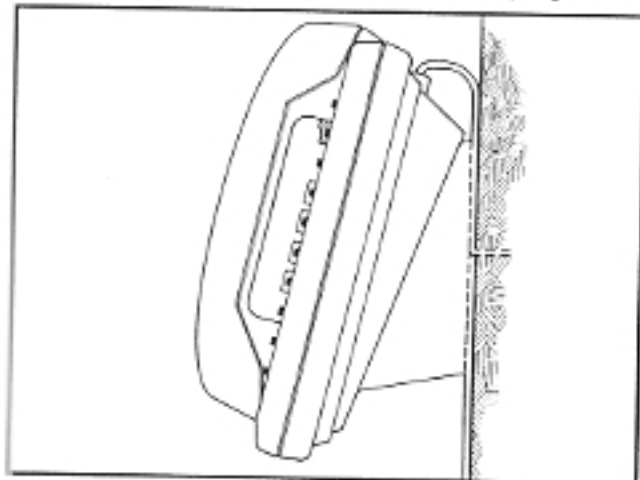

FIGURE 37—"S" EKT WIRE ROUTING
08.16 Route the tail cord as shown in Figure 37.